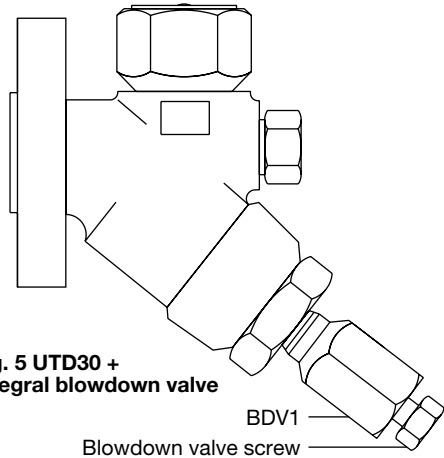

Fig. 5 UTD30 +
**Note:** The blowdown valve screw on the integral blowdown valve (see Figure 5) should be tightened to 22 - 25 N m (16 - 17 lbf ft). See TI-P153-01 for further details regarding the integral blowdown valve.